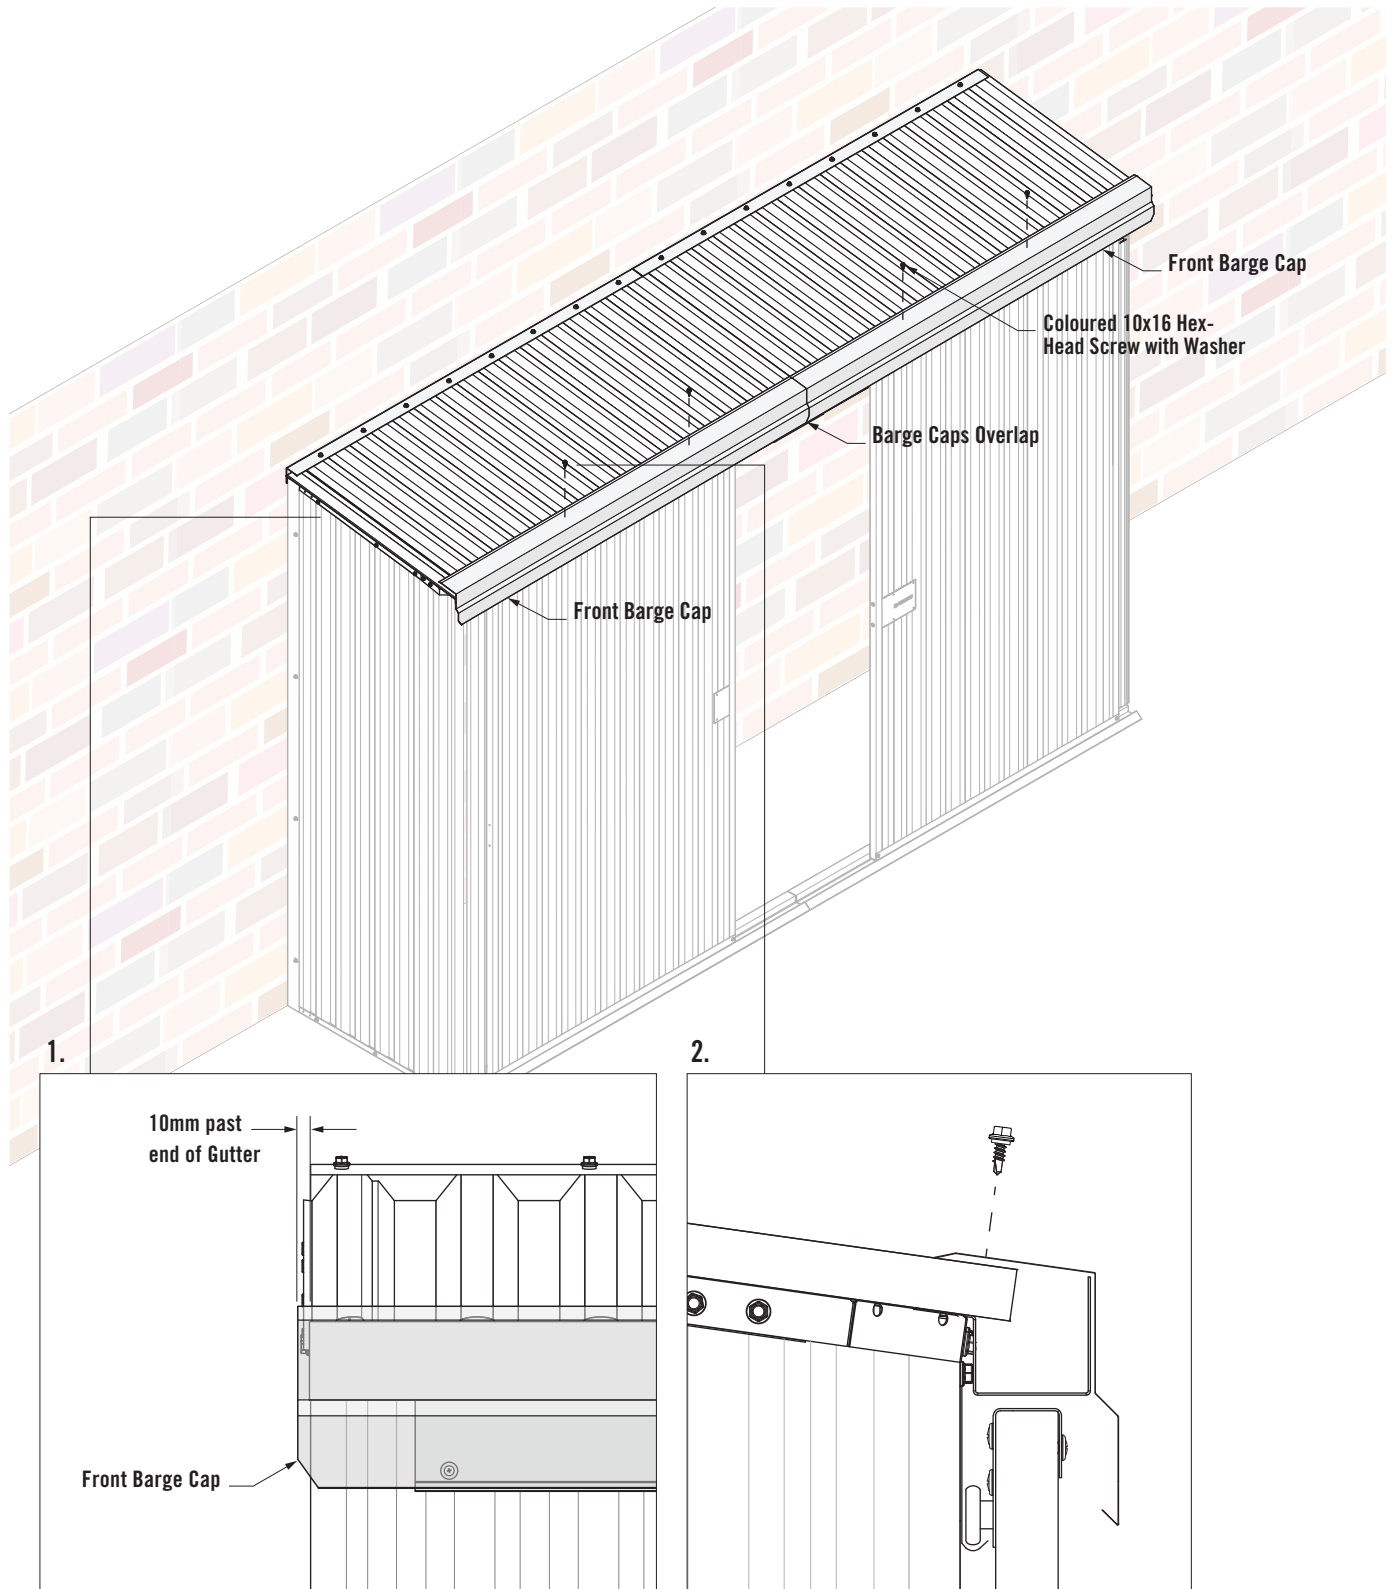

FIGURE 10.3
1. Fit the Front Barge Caps against the Gutter. Ensure a 10mm gap between the end of the Gutter and end of the Front Barge Cap (Figure 10.3).
2. Fasten two Coloured 10x16 Hex-Head Screws with Washers through both Front Barge Caps and into the Roof Sheets (Figure 10.3).